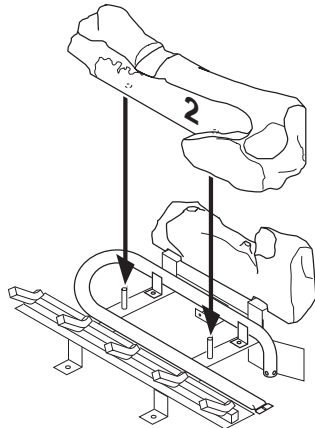

Figure 25 - Installing Log No. 2
3. Rest log #2 (large front log) on the pins on the front part of grate (see Figure 25).